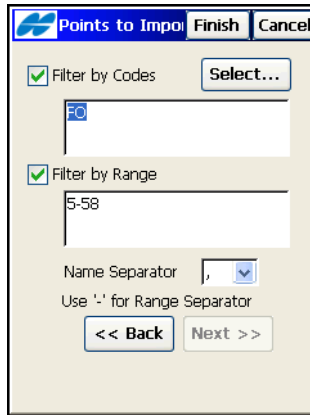

Figure 5-5. Points to Import
- ***Points To Import*** if the points are filtered *By Range and Code* (see Figure 5-5 on page 5-6)
The *Points to Import* screen filters imported points (Figure 5-5 on page 5-6).